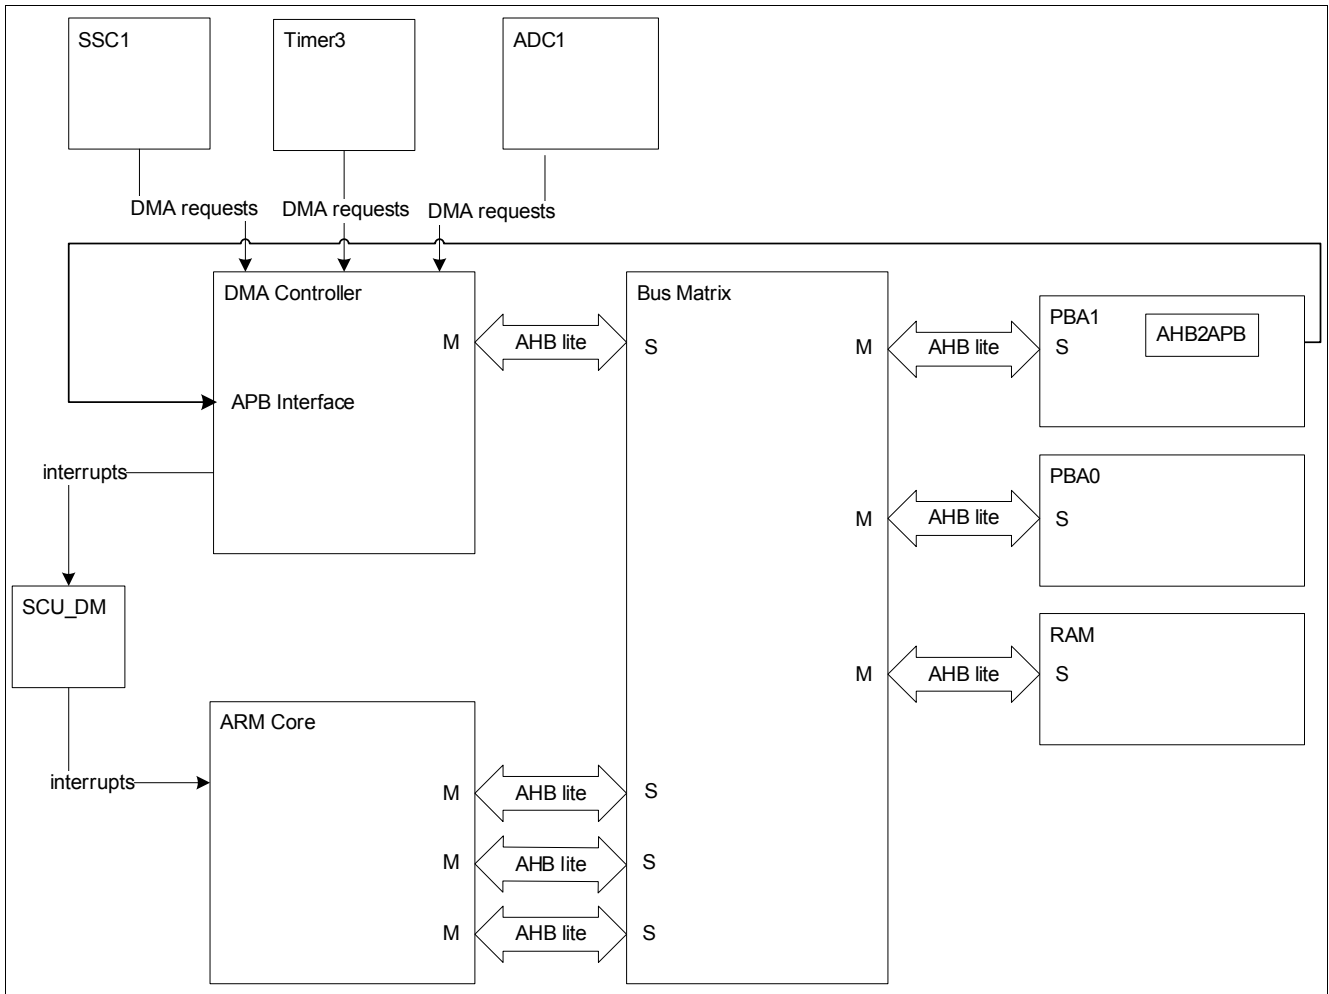

Figure 13 DMA Controller Top Level Block Diagram
**Figure 13** shows the Top Level Block Diagram of the TLE9873QXW40.